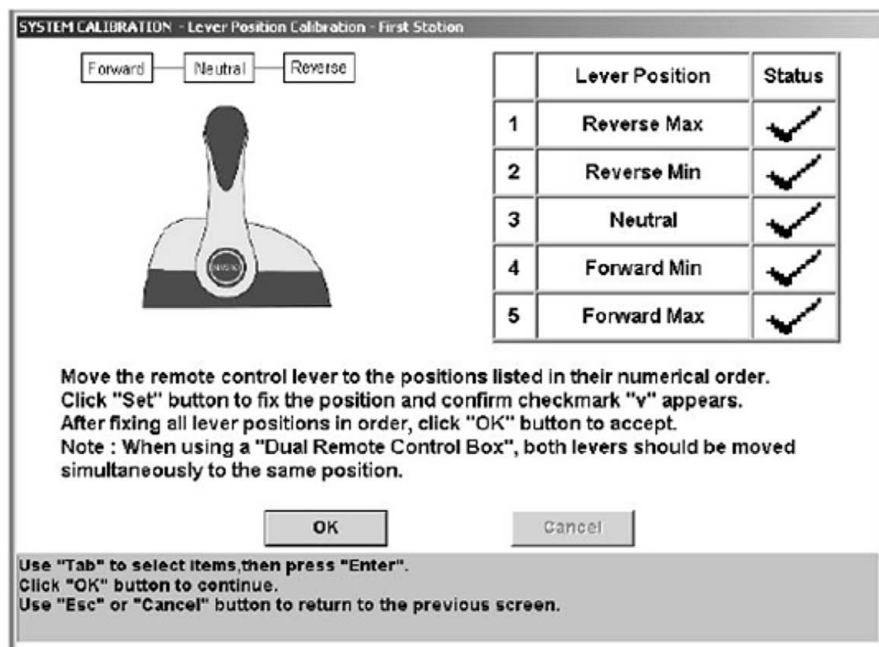

Figure 7-7. Save calibrated values.
- When all lever positions have been set, and the screen shows check marks next to all of them (see figure 7-7), return the control levers to the neutral position and click **OK** to save the calibration.